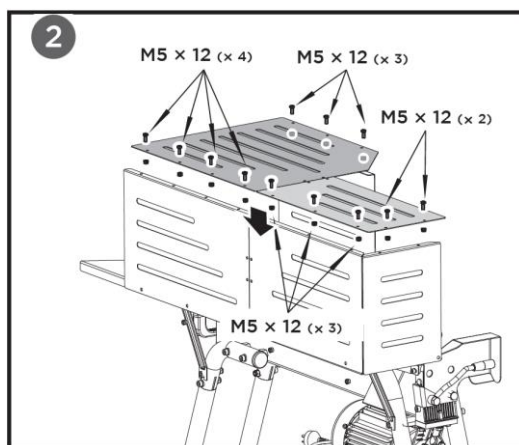

Fig. 11a
2. Mount the two top guard plates (m & n) onto the vertical plates with M5x12 bolts and nuts (K). See Fig. 11a.